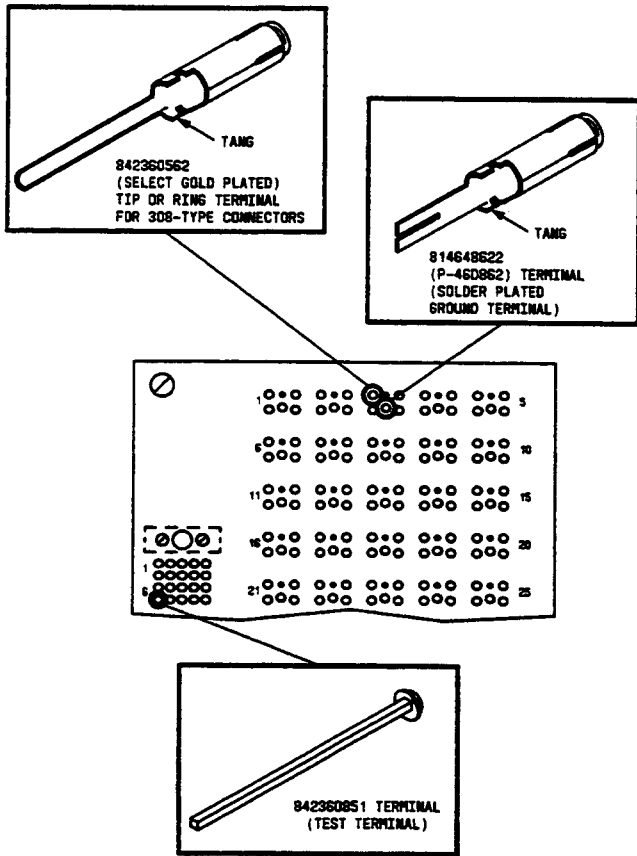

Figure 14—308-Type 1 Connector—Replacement Terminals
4.06 Figure 14 and 15 illustrate the 308-type connectors and the relationship of piece parts.